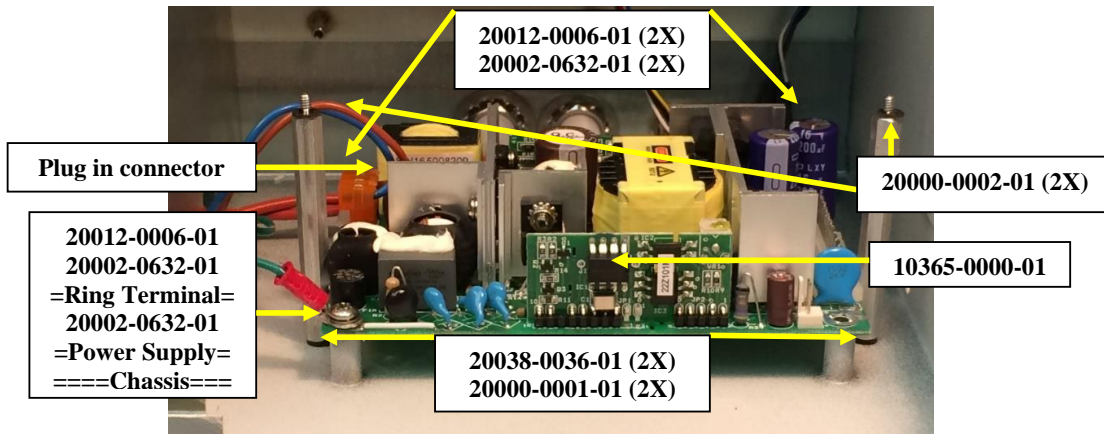

Figure 41
- 15.1. Install two (2) 1/16" Fiber Washers (20000-0001-01) and two (2) 4-40x2¼" Hex Standoffs (20038-0036-01) into the bottom of the Chassis as shown in Figure 41.
- 15.2. Mount the Power Supply (10365-0000-01) onto the Chassis using three (3) 6-32x3/8" Pan Head Screws (20012-0006-01) and four (4) #6 Lockwashers (20002-0632-01) as shown in Figure 41. Secure the ring terminal on the green/yellow wire of the Power Entry Module (made in Step 8) to the Power Supply as shown.
- 15.3. Plug the connector with the brown & blue wires from the Power Entry into 2-pin connector on the Power Supply as shown in Figure 41.
- 20.15. Add a 1/32" Fiber Washers (20000-0002-01) to the top of each Standoff as shown in Figure 41.